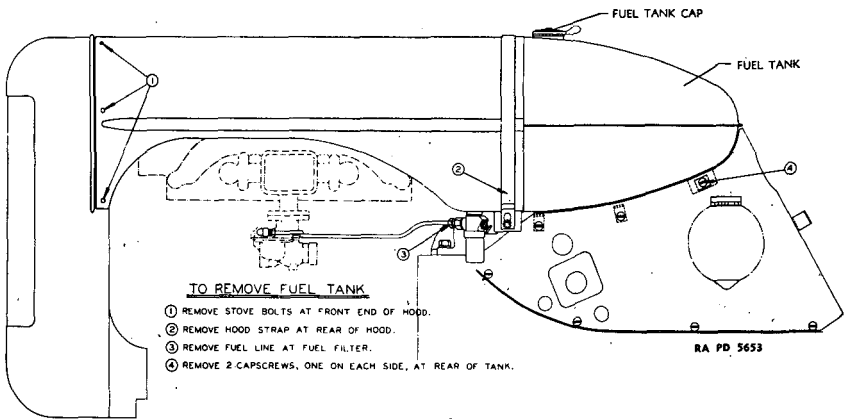
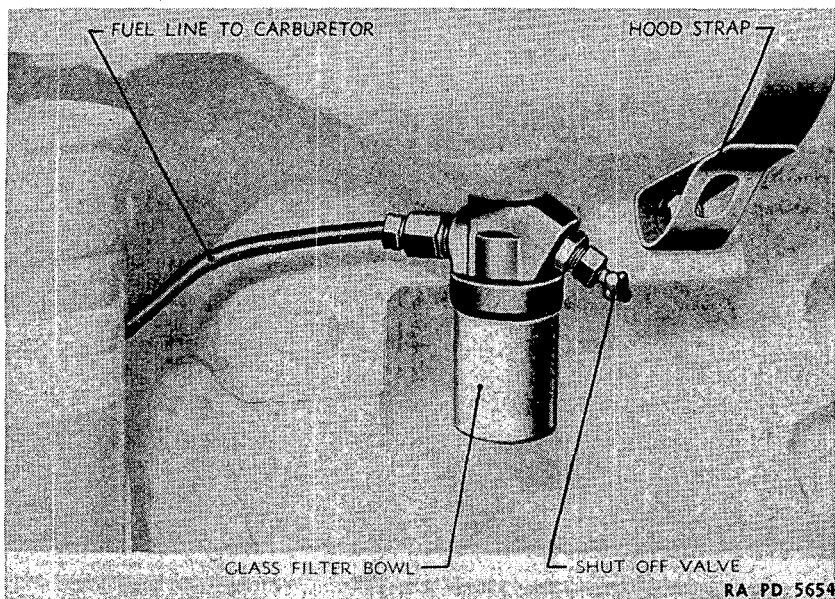

FIGURE 15.—Removal of fuel tank.
FIGURE 16.—Fuel strainer.
c. Replacement.—Fuel tanks will be replaced when excessive rust is present or when leaks develop. To remove the fuel tanks, proceed as follows (see fig. 15):
- (1) Remove stove bolts at front end of hood.
- (2) Remove hood strap at rear of hood.
- (3) Remove fuel line at fuel filter and drain tank.
- (4) Remove two cap screws, one on each side at the rear of the tank.
- (5) To replace, proceed in the reverse order of removal.
45. Fuel strainer.—*a. Description.*—A fuel filter (fig. 16) is located at the bottom of the fuel tank connected between the fuel tank and the carburetor. The fuel filter should be inspected daily and cleaned when necessary.